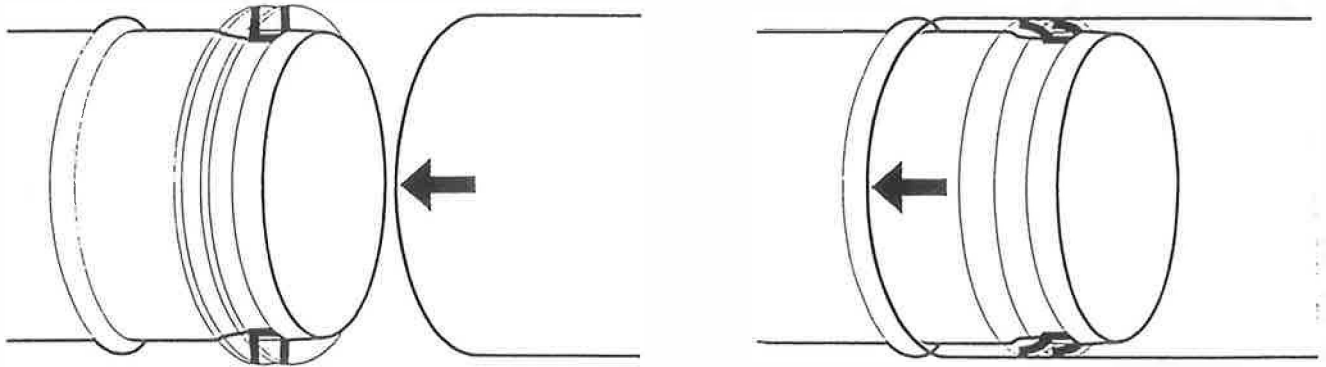

Figure 2 - The double sealing gasket fits tightly against the tube
- Connecting two circular spiral wound ducts only requires one fitting, Figure 2, whereas rectangular ducts are connected by use of a complete separate flanging system.